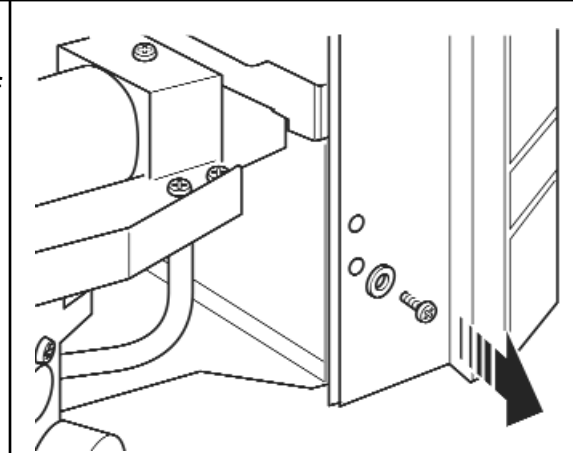

Figure 36. Removing the fascia fixing screws (Shown with Bolero fascia)
2. Remove the two screws securing the bottom of the fascia to the sides of the hotbox (See figure 36). On the Bolero there are also two washers.